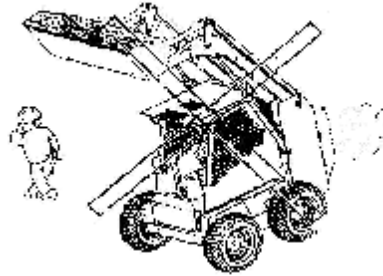

Fig 36 Wrong
**WARNING:**Don't leave the loader when it is running or the lifting arm is up(Fig 36)